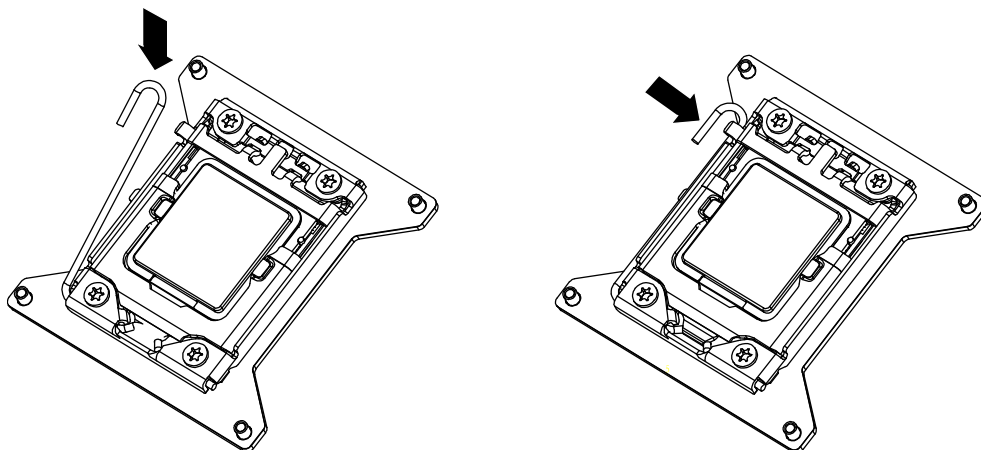

Figure 2-10 CPU Lock
Step 5: Close the top cover CPU Socket, and click the lock lever in place as shown in Figure 2-10.